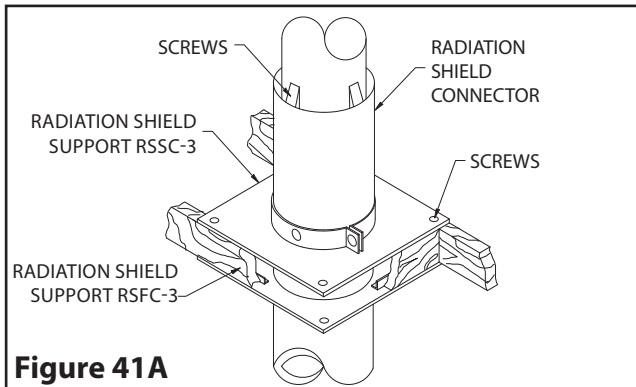

Figure 41A
Step 5. At the ceiling level from below, position a Radiation Shield Connector Firestop (RSFC-3) (**See **Figure 41A****)
Step 6. At the ceiling level from the top, position a Radiation Shield Connector (RSC-3) and a Radiation Shield Support (RSSC-3) attached but not tightened together (see **Figure 41A**).